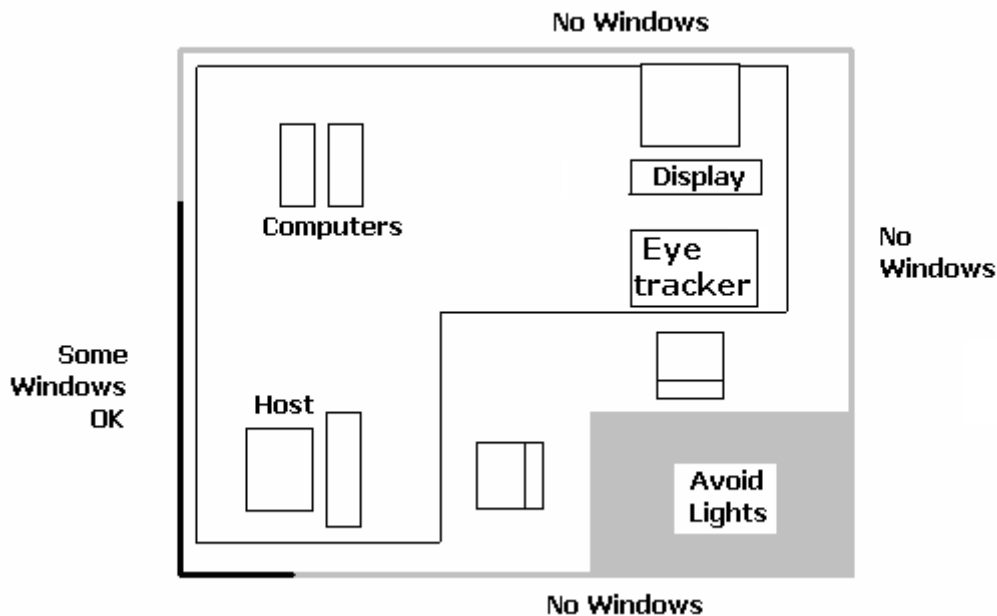

Figure 1-1: Suggested EyeLink 1000 System Layout
- Ideally, arrange the Host and Display PC monitors on tables in an 'L' shape, as in Figure 1-1. This configuration allows the experimenter to adjust the eye tracking device and set up the subject for the experiment while having access to both computer keyboards and monitors.
- Avoid windows or other bright light sources that could cause reflections on the host and display monitors. The grey walls highlighted in Figure 1-1 are locations where bright light sources will cause reflections.
Set up the Display PC (the computer to be used to deliver the experiment to the subject and to control EyeLink 1000 calibration) at the desired location (see Section and Figure 1-1 for a suggested layout). This includes connecting the keyboard and mouse to the computer, as well as the power supply and monitor cables.
Set up the Host PC as you would any computer, at the desired location (see Section and Figure 1-1 for a suggested layout). This includes connecting the keyboard and mouse to the computer, as well as the power supply and monitor cables.